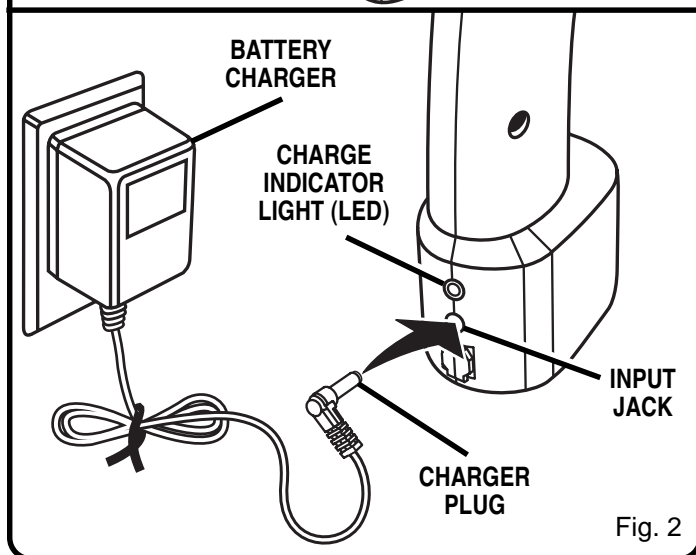

Fig. 2
- Connect charger to the tool by inserting charger plug into input jack. **Note:** As shown in figure 2, input jack is located at rear of tool.